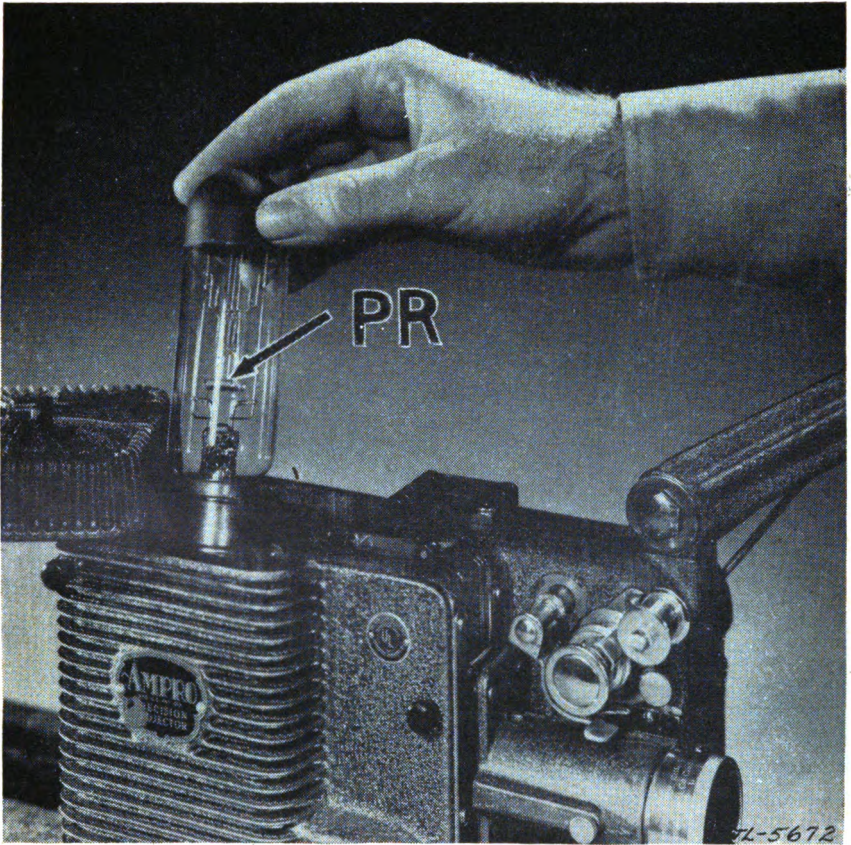

FIGURE 60.—Removing Ampro YA projection lamp.
*a. Ampro YA.*—(1) To replace the projector lamp, remove the two cover nuts and lift off the housing cover. Rotate the lamp to the left and lift out. Wipe fingerprints from the new lamp and position the new lamp and the cover. (See fig. 60.)